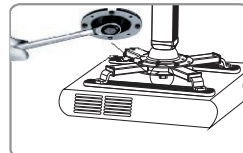

Figure 12
1. Loosen the screws of GPC support bar assembly⑥ via the spanned; adjust the projector to your desired position and fasten it. Figure 12